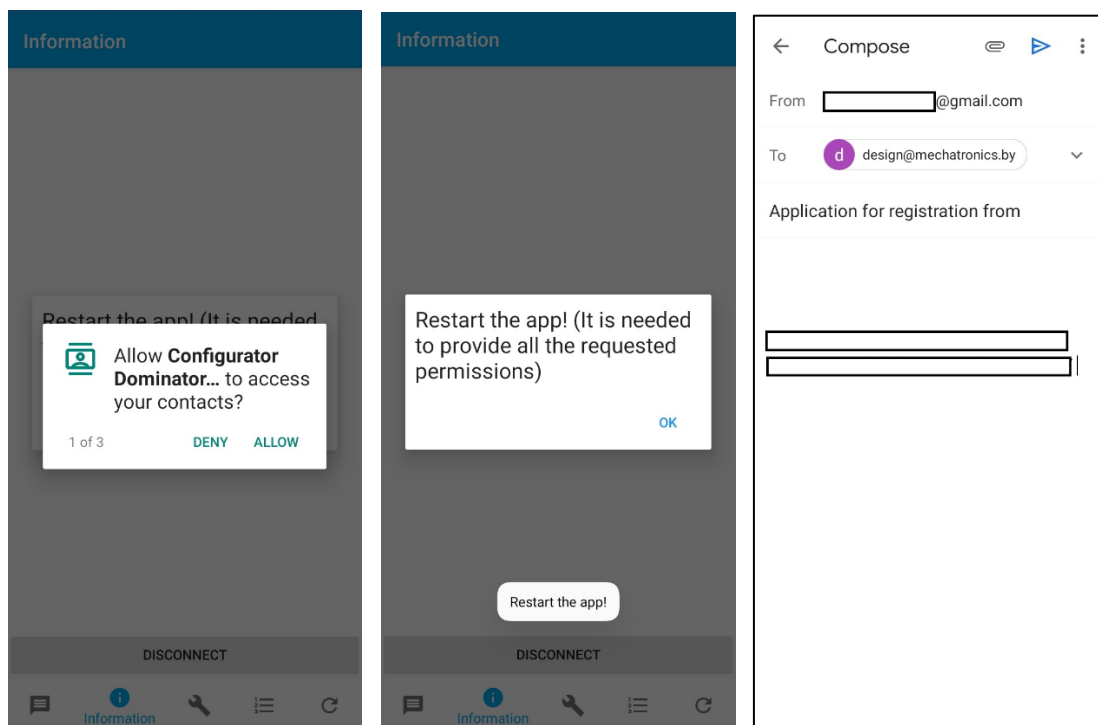

fig. 2.1. Permissions
2. During the installation provide all required permissions to the app and enable Bluetooth access and geolocation services (fig. 2.1).